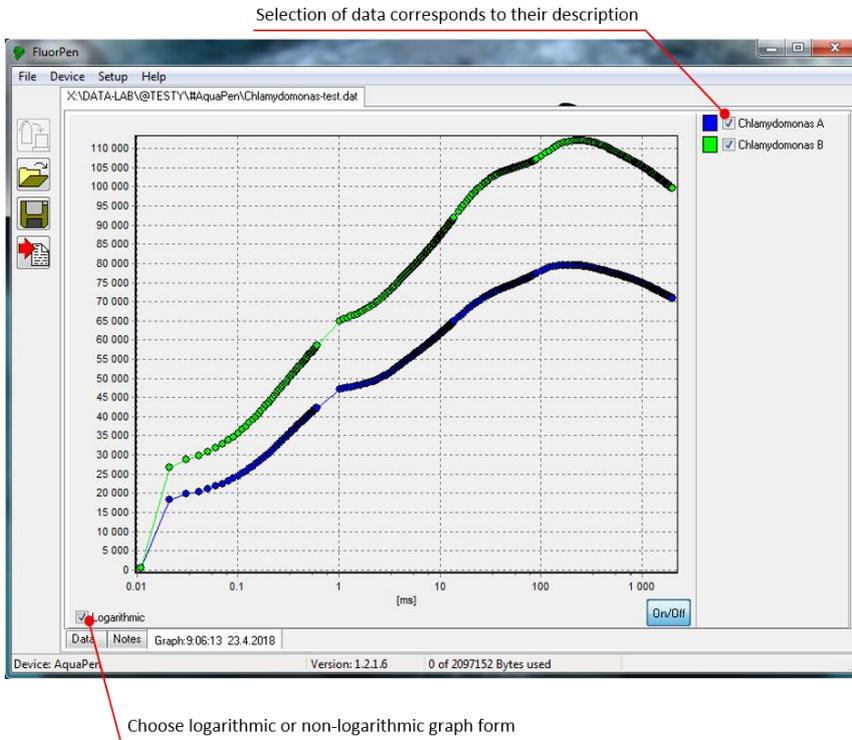

Fig. 29 Graph visualization.
- The selected set of data will be shown on the Graph (Fig. 29).